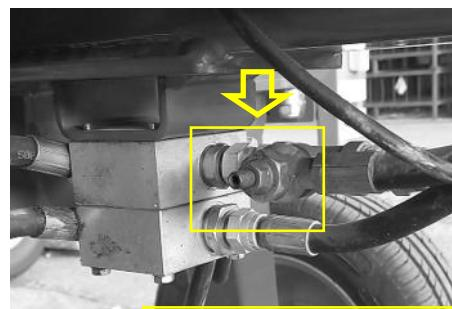

fig.31
- **Kicker wheels, if there are:** act on the throttle valve on the T union (hay rake right side), shown in fig.31.